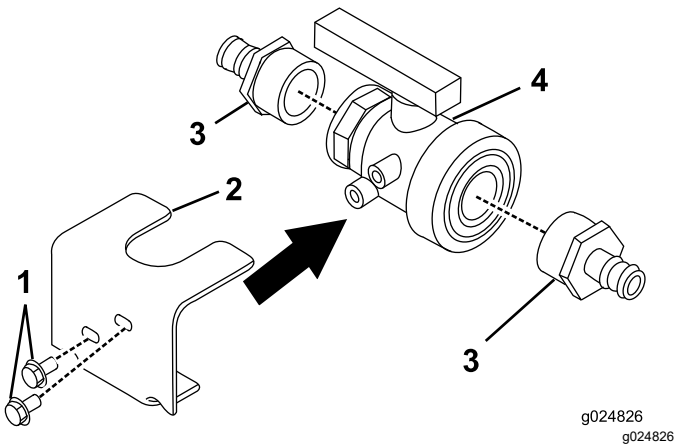

Figure 33
5. Assemble the ball valve to the ball valve bracket (Figure 33) with 2 bolts (5/16 x 5/8 inch).